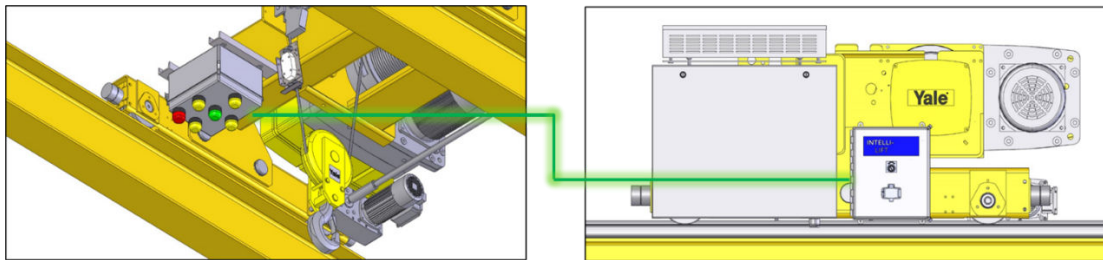

Figure 1: Wireless User Interface
1. Wireless access using Wi-Fi technology (Fig.1)